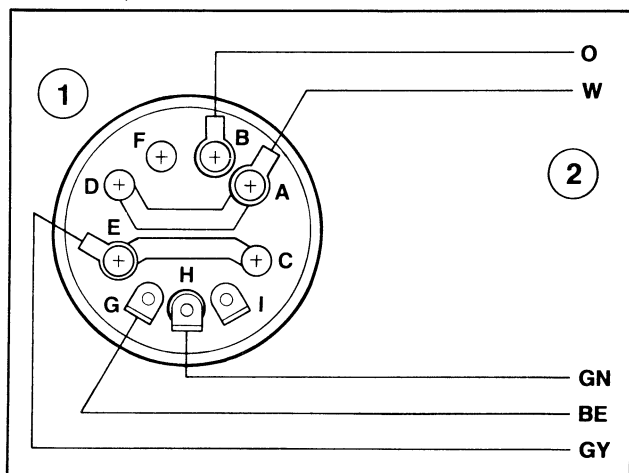

Figure 88 - Directional Key Switch Wiring Diagram
- Color codes for wiring switch are shown in Figure 88.